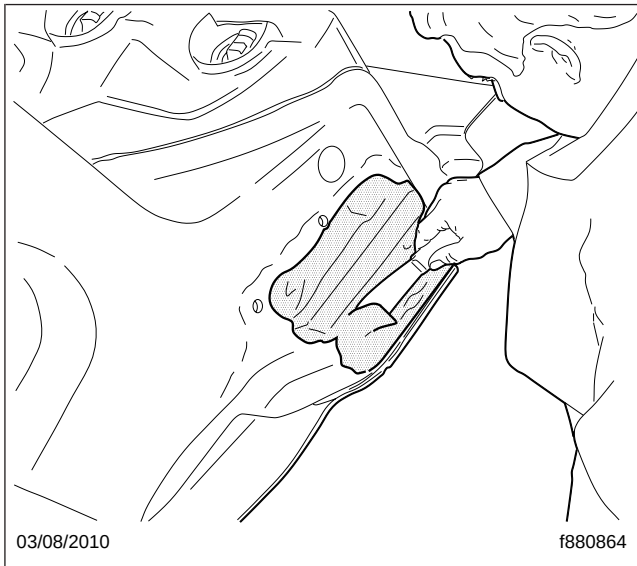

Fig. 3, Removing Old Adhesive
9. While the adhesive is still soft, scrape it off the hood. See Fig. 3.